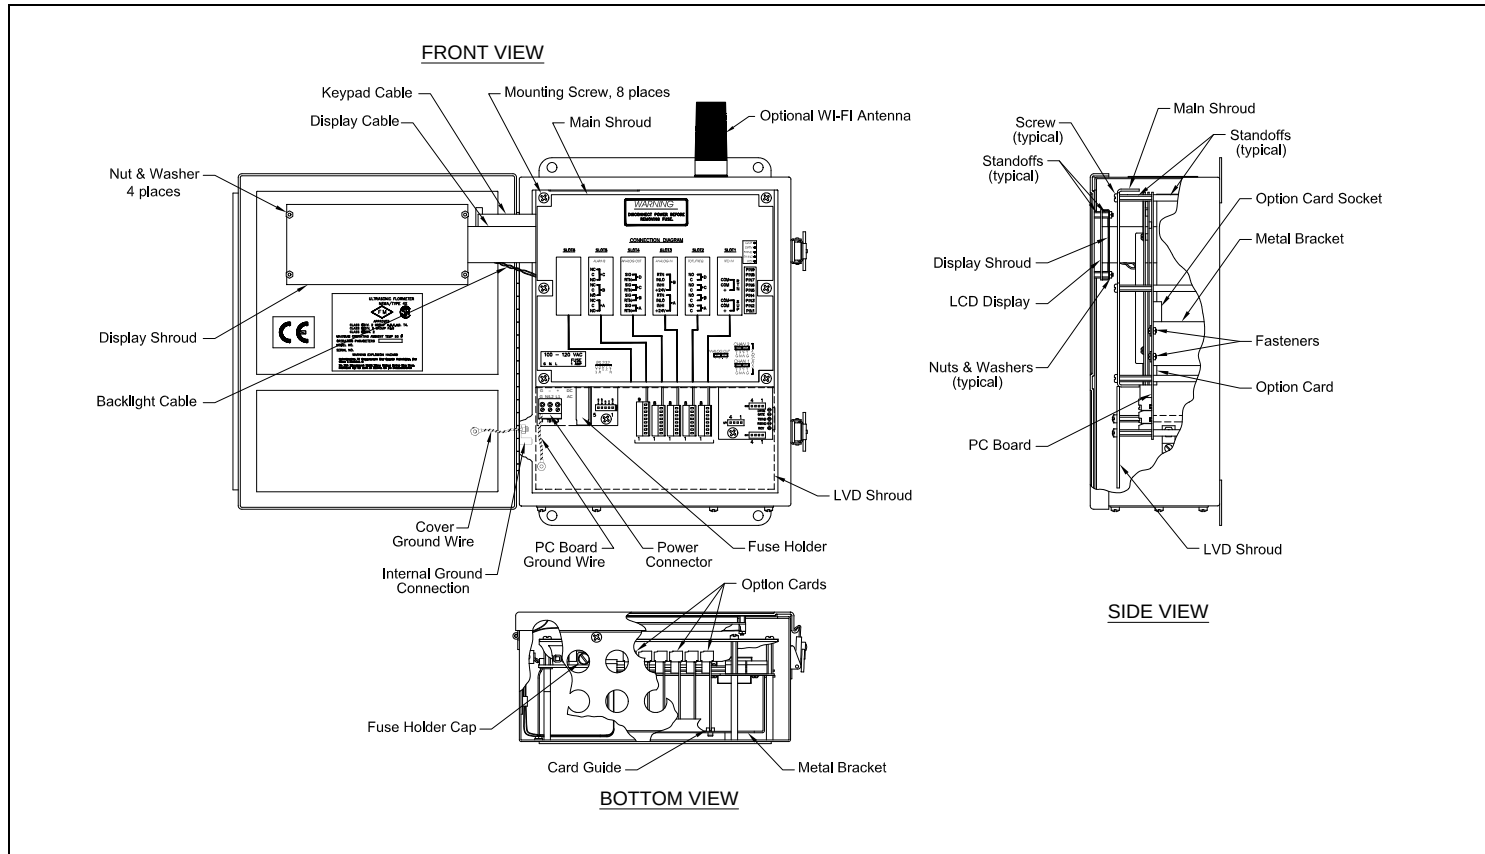
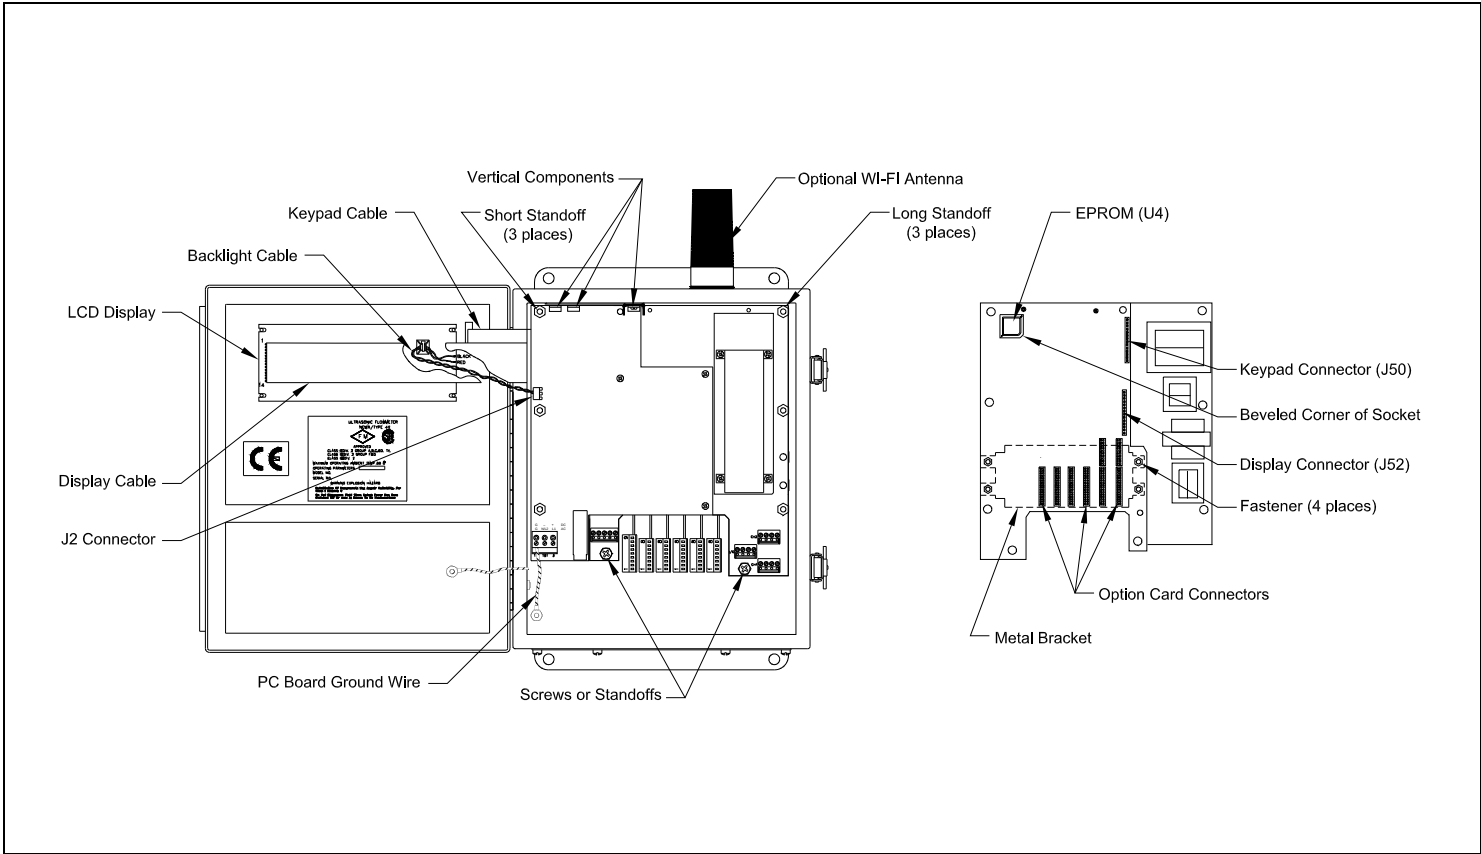

Figure 8: Standard Model DF868 - Electronics Console Assembly
Figure 9: Standard Model DF868 - Printed Circuit Board Assembly
2. Locate the black plastic fuse holder that is mounted on the printed circuit board between the power terminal block (TB1) and the RS232 terminal block. As shown in Figure 8 on page 35, the fuse holder extends below the main aluminum shroud, and the fuse holder cap is located on the bottom of the fuse holder.
All of the remaining maintenance procedures discussed in this chapter require removal of the printed circuit board. Refer to Figure 8 on page 35 and Figure 9 on page 36 while completing the following tasks:
CAUTION! During this procedure, be very careful not to damage the upright components along the top edge of the printed circuit board (see Figure 9 on page 36). Severe or repeated bending will break the component leads.
The Model DF868's *User Program* is stored on an erasable programmable read only memory (EPROM) chip. The EPROM, which is designated as component U4, is located in the top left corner of the rear of the printed circuit board. See Figure 9 on page 36 for a rear view of the printed circuit board. EPROM replacement may be required to replace a defective chip or to upgrade to a newer software version. To replace the EPROM, complete the following steps:
To install an option card, refer to Figure 9 on page 36 and complete the following steps:
5. Place the metal bracket over the option cards, making sure that all option cards are aligned with the plastic card guides in the bracket. Secure the metal bracket to the printed circuit board with the snap rivets provided. See the installed assembly in Figure 8 on page 35.
The Model DF868's measurements are displayed on a two-pane LCD graphic display panel. The LCD display normally provides years of dependable service, but it is easily field-replaceable when necessary. To replace the LCD display, see Figure 8 on page 35 for the component locations, and complete the following steps:
4. Place the new LCD display assembly over the mounting studs on the console cover and fasten it in place with the four standoffs. Make sure that the LCD display assembly is oriented as shown in Figure 9 on page 36.
Whether the printed circuit board was removed for replacement or for one of the other procedures discussed in this chapter, reinstallation of the printed circuit board is the final step in the process. Refer to Figure 8 on page 35 and complete the following steps:
CAUTION! During this procedure, be very careful not to damage the vertical components along the top edge of the printed circuit board (see Figure 9 on page 36). Severe or repeated bending of these components will break their leads.
1. Position the printed circuit board within the electronics console with the top edge tilted forward. Insert the display ribbon cable and keypad ribbon cable connectors into their sockets on the rear of the printed circuit board. See Figure 8 on page 35 and Figure 9 on page 36 to identify the cables and sockets. Note that the keypad cable connects to the upper socket and the display cable connects to the lower socket.